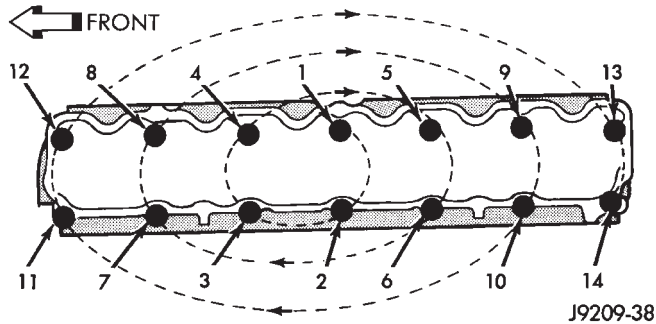

Fig. 15 Engine Cylinder Head Bolt Tightening Sequence
(3) With bolt No.14 held in place (tape around bolt), install the engine cylinder head. Remove the tape from bolt No.14.
(4) Coat the threads of stud bolt No.11 with Loctite 592 sealant, or equivalent.
(5) Tighten the engine cylinder head bolts in sequence according to the following procedure (Fig. 15):